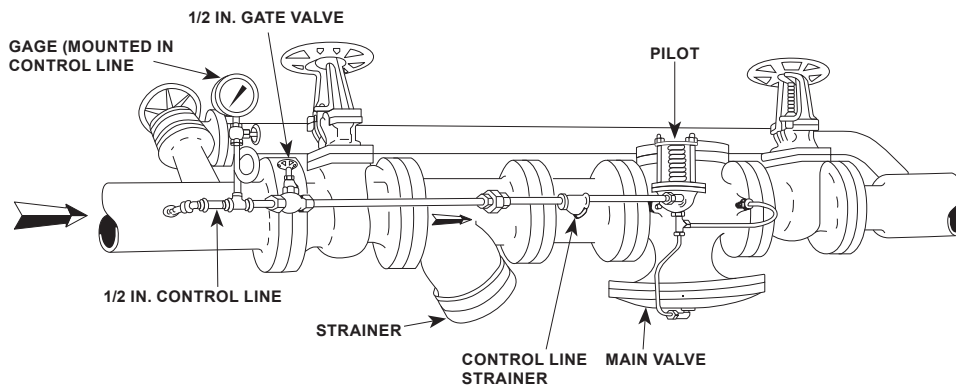

Figure 2. Installation of Backpressure Regulator with Three-Valve Bypass and Strainers
1. Install the main valve in a straight run of horizontal pipe. The diaphragm chamber must be down and the flow arrow pointing in the direction of flow. (See Figure 2)